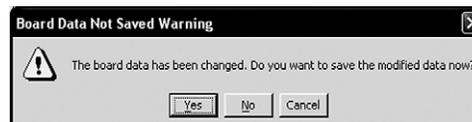

Figure 2. The “board data not saved warning” message box.
- There is no “undo” for any changes that you make for a particular device type (for example, on capacitors, resistors, and pin library devices). If you make a mistake and want to start over, simply select a different device type. A warning message (Figure 2) will appear, stating that the board data has been changed but not been saved. Just press “No” and any changes you have made will not be saved to the file.